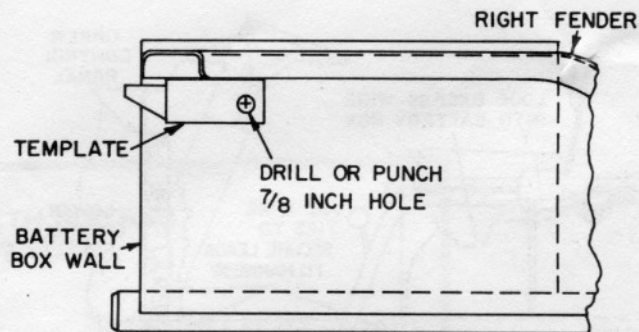

Figure 2
**NOTE:** If the 7/8-inch hole is pre-punched as shown in Figure 2, it may not be necessary to remove the batteries. Wires can be "fished" through the frame opening with a long, stiff, wire inserted from below the frame.
5. Locate and punch or drill a 7/8-inch hole in the side of the rear battery box with the template provided as shown in Figure 2. Remove any metal chips from inside the battery box.